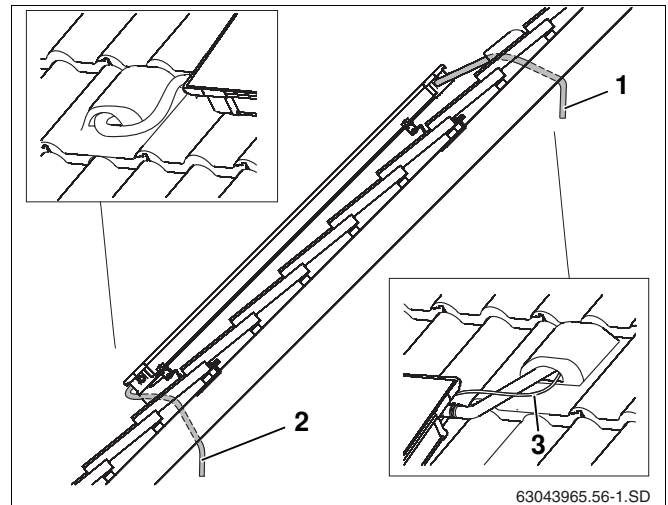

Fig. 52 Routing connection pipes under the roof
- Feed solar hose together with the sensor cable through the ventilation tile (Fig. 52, **Item 1**) and through the roof insulation.